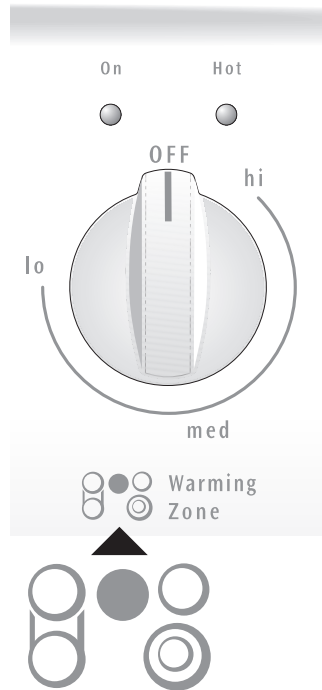

Figure 1
1. To set the control, push in and turn the knob. The **On** indicator light will come on (See Fig. 1 and 2). The temperatures are approximate, and are designated by HI, MED and LO. However, the control can be set at any position between HI and LO for different levels of heating (Fig. 1).
2. When done, turn the control to OFF. The **Warming Zone Hot surface indicator light** will remain on until the **Warming Zone** cools to a moderate level (See Fig. 1 and 2).